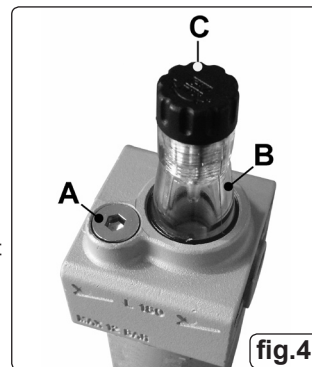

fig.4
4.4.1. Remove the filler plug (fig.4.A) and fill the bowl with air tool oil (Sealey Part No. ATO500 or ATO1000). This can be done with the system pressurised. With air flowing through the lubricator the oil delivery rate can be adjusted by the screw (fig.4.C) whilst watching the drip rate through the sight dome (fig.4.B). The oil delivery rate will automatically increase or decrease in line with the air flow.